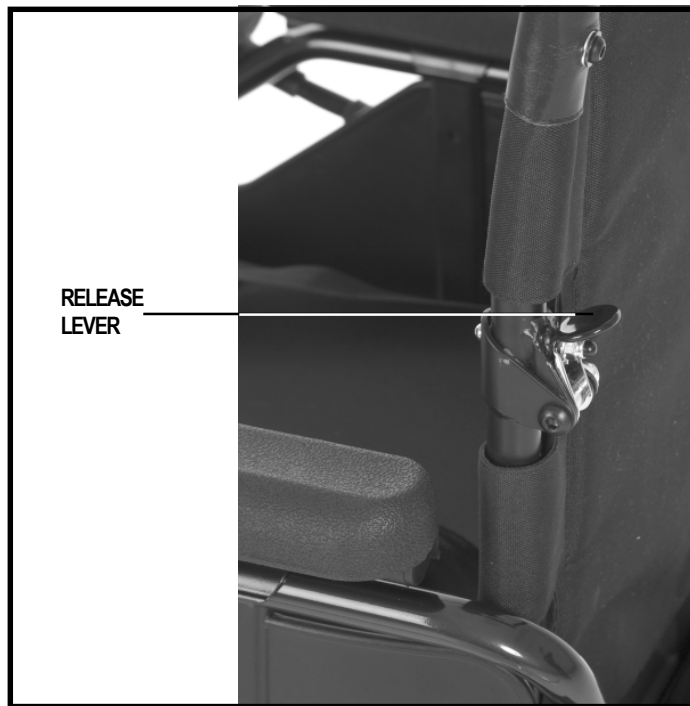

Figure 22. Seatback Release Lever
7. Press the release lever on each back cane and fold the seatback down. See figure 22.